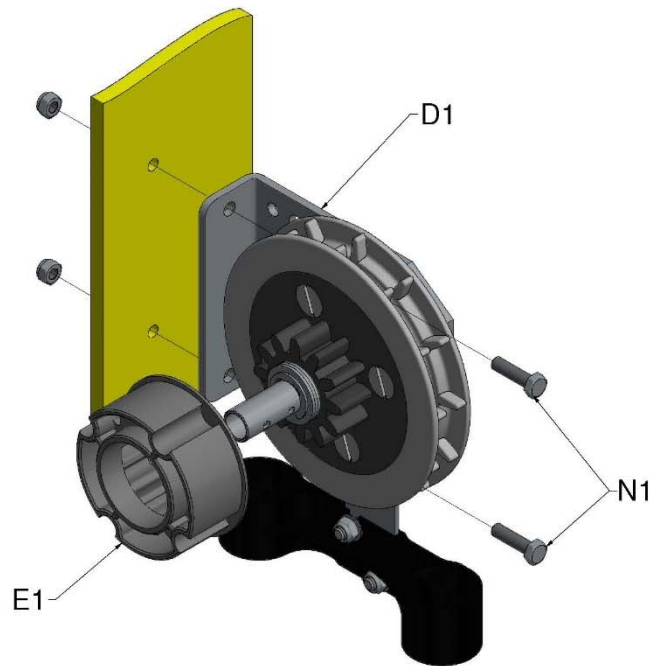
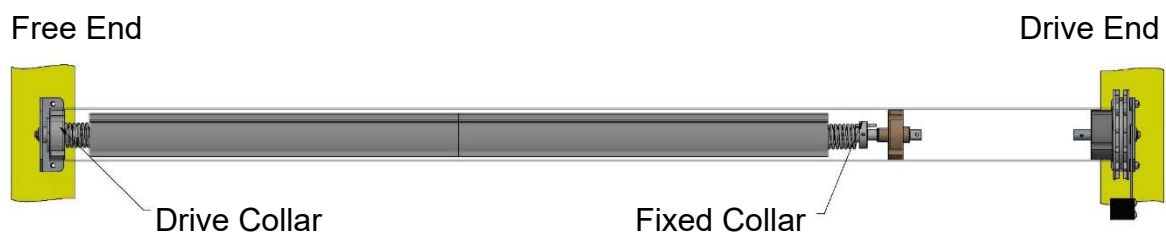

Figure 4a, Attach Drive Bracket to Building
Figure 4b, RH Door, Drive Bracket on the Right
- Slide drive collar (E1) onto chain wheel gear attached to drive bracket (D1) and bolt assembly to the building with M8 fixings supplied, Figure 4a. The orientation of the drive bracket is as specified when you ordered your door, see Figure 4b and 4c, the spring is situated on the opposite side. If you wish to fit the drive bracket to the opposite side to that ordered, refer to instructions in Appendix I.